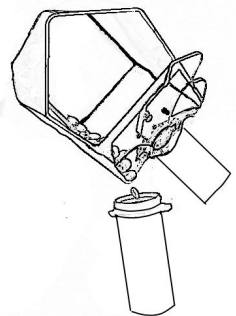

Fig. 5
- Pour the tablets from the tray into the vial (Fig. 5).